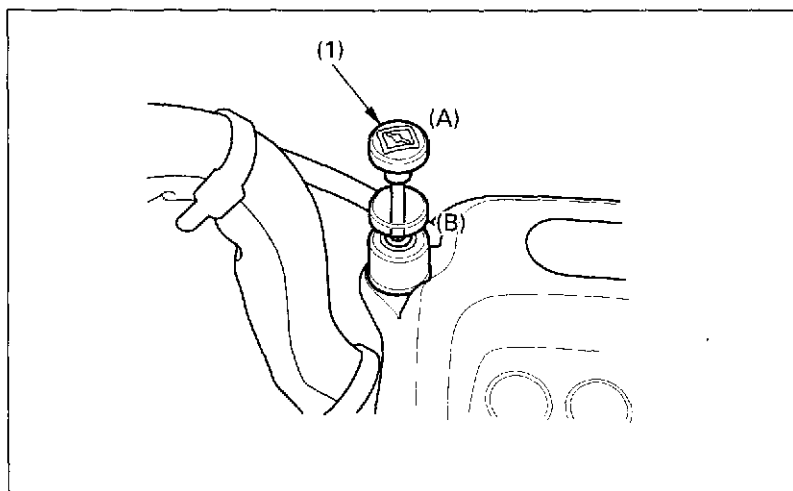

Fig. 2-7 (1) Choke knob
The choke knob (Fig. 2-7) is located above the indicator lamp. The choke has two positions: fully ON (A) and fully OFF (B).